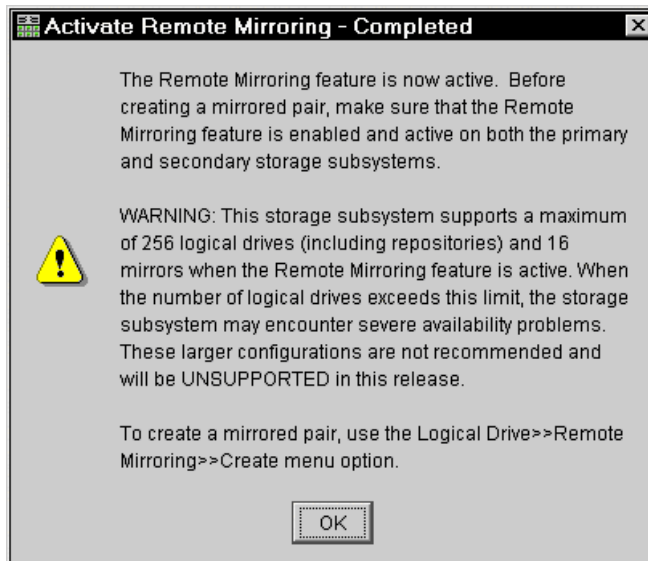

Figure 6-16 Activate Remote Mirroring - Completed window
3. A completion window appears (Figure 6-16), advising that the Remote Volume Mirroring feature is active. Review the information and click **OK**.